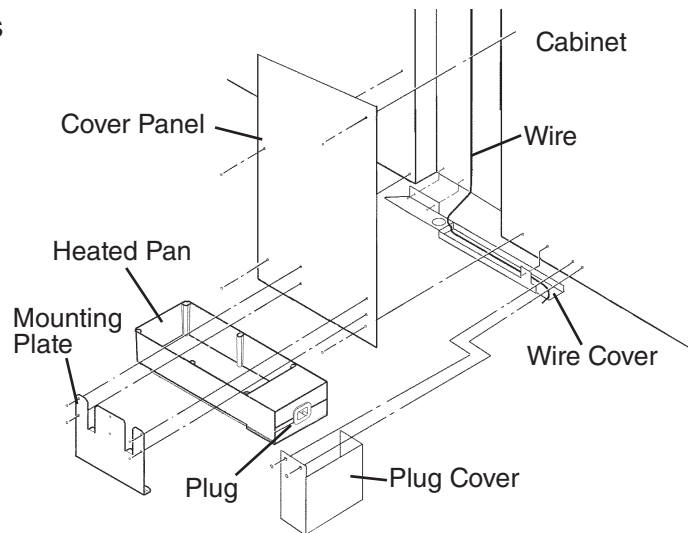

Fig. 4
- 1) Remove the panel that covers the recess in the back of the unit. See Fig. 4.